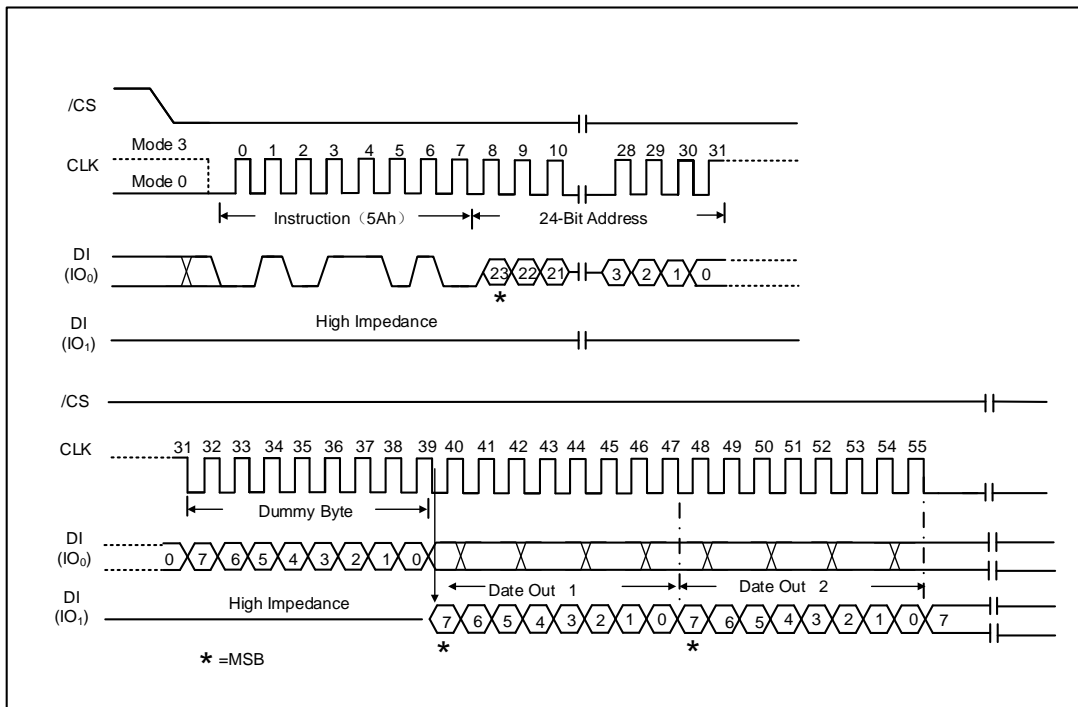

Figure 48. Read SFDP Register Instruction Sequence Diagram (Only SPI Mode)
The Read SFDP instruction is initiated by driving the /CS pin low and shifting the instruction code “5Ah” followed by a 24-bit address(either 3-byte or 4-byte address mode) (A23-A0)(1) into the DI pin. Eight “dummy” clocks are also required before the SFDP register contents are shifted out on the falling edge of the 40th CLK with most significant bit (MSB) first as shown in Figure 48. For SFDP register values and descriptions, please refer to the followed SFDP Table.